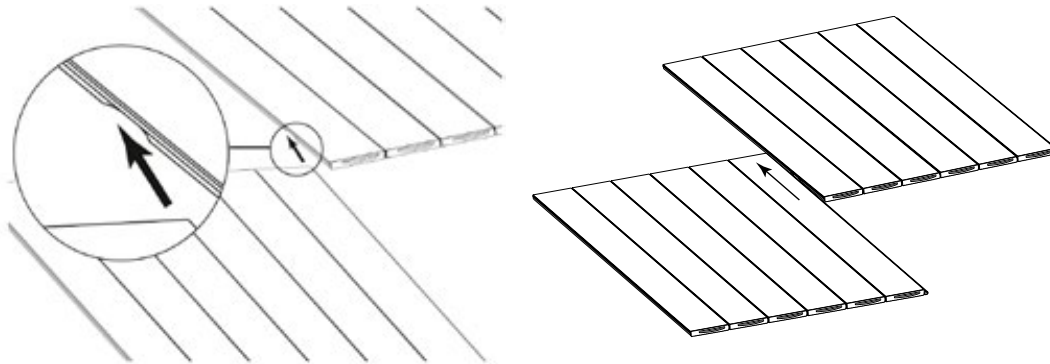

Figure 43 – Assembling the slat cover apron
As of the 1st of January 2004, the French pool safety standard NF P 90-308 has required that the portion of the pool in which the cover is installed must be separated from the rest of pool. Installation of the pit wall is therefore mandatory. The pit wall and underwater light assembly steps are illustrated in Figure 43. The screws required for assembly are enclosed in bag Y.
Assemble the two pit wall modules (1) using four hex head 8 × 20 A4 SS screws, and eight 8 mm diameter nuts, place a 8 mm diameter washer on either side of the wall, that is a total of 16 washers. The locations of these screws on the wall are circled in red in Figure 43.